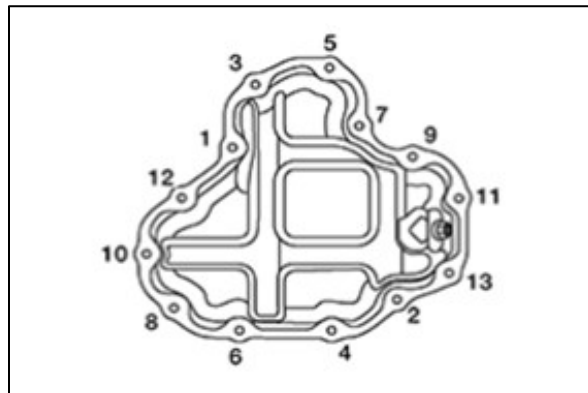

Figure 14
- Torque the lower engine oil pan bolts to specification using the sequence in Figure 14.